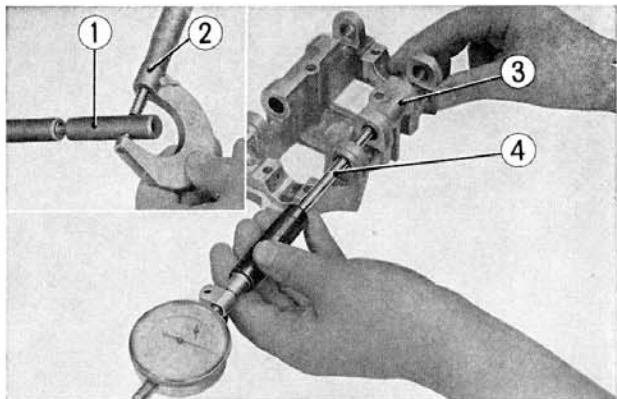

Fig. 3-53 ① Rocker arm shaft
4. Measure the rocker arm shaft support area with a micrometer and measure the rocker arm shaft bearing diameter bore using inside micrometer. Calculate clearance and if it is greater than **0.0047 in. (0.11 mm)**, replace either one or both of the parts. (Fig. 3-53)